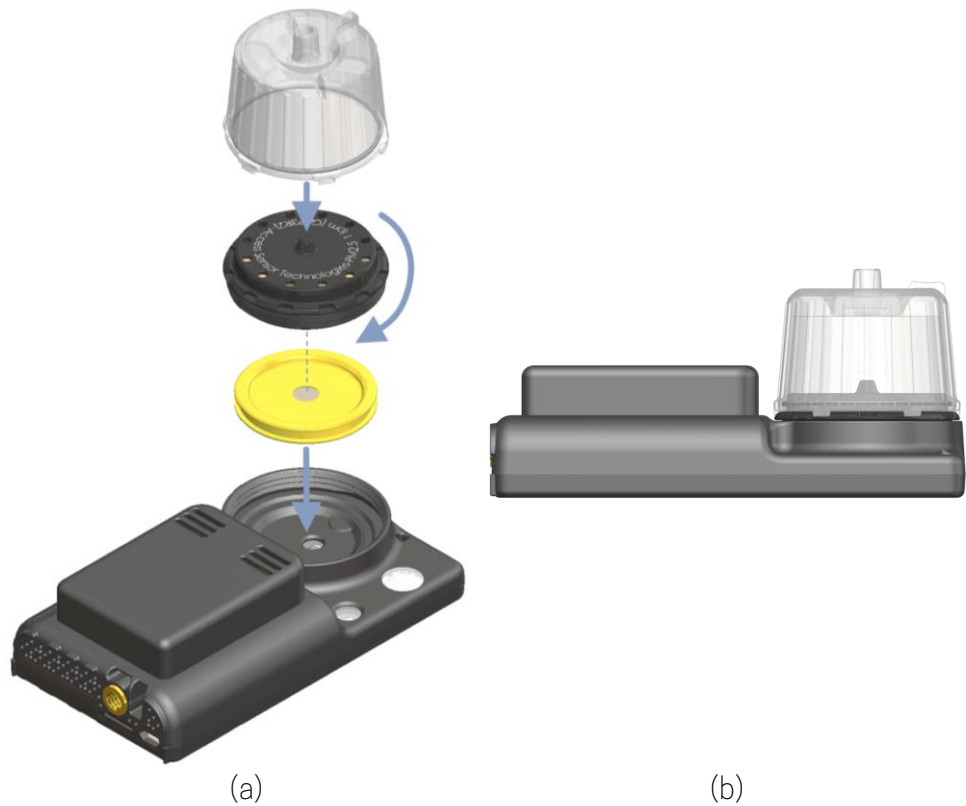

Figure 14. (a) Installing the GEN2 flow check adapter over the GEN2 PM_{2.5} 1 L min⁻¹ inlet on a sampler. (b) With the flow check adapter fully installed.
GEN2 inlets do *not* need to be removed to install the GEN2 flow check adapter and connect the sampler an external flow meter. The GEN2 flow check adapter seals over any GEN2 inlet so that the flow rate through the inlet and filter cartridge can be checked with the sampler fully-assembled. Center the adapter over the inlet and align the tabs on the bottom of the adapter with the 12 pockets in the top of the inlet; then, press the adapter down until the tabs bottom out in the pockets and the O-ring inside the adapter seals to the groove around the circumference of the cap (Figure 14).
- 1 Install the flow check adapter over the inlet as shown in Figure 14 and connect a tube to the barb on the adapter.